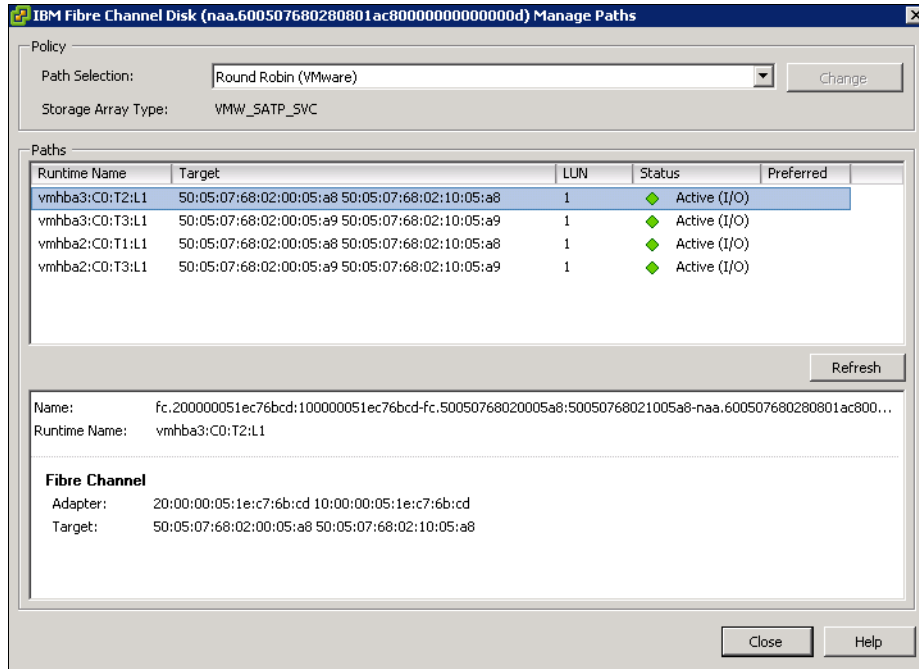

Figure 12-47 Select a data store multipath setting
- Click **Manage Paths** to customize the multipath settings. Select **Round Robin** (Figure 12-47) and click **Change**.